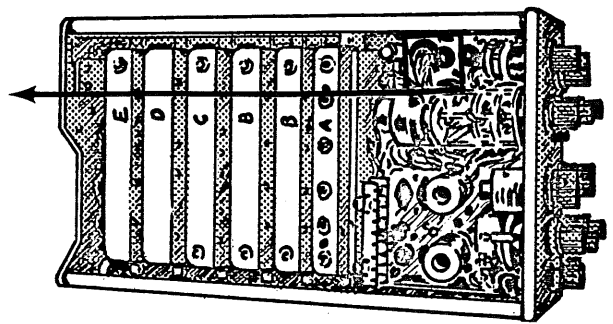

Figure 5-41
7. Adjust the A Digital Gain, R354 - See Figure 5-41, for a digital count of 600.